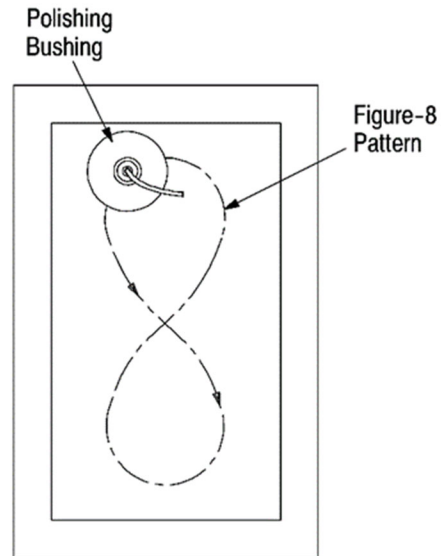

Figure 7
4. Hold the ferrule assembly and rest the tips of your index finger, middle finger, and thumb on the top of the polishing bushing. Starting with very light pressure, polish the tip of the fiber in a figure-8 pattern. Refer to Figure 7. Polish the fiber until the epoxy turns a very light yellow.